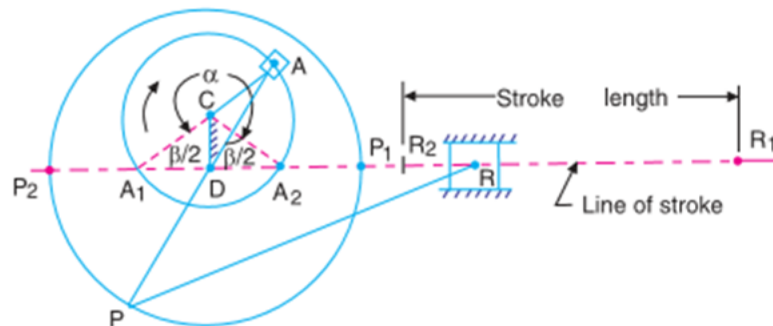

Figure 1
- A Whitworth quick return motion mechanism, as shown in Figure 1 has the following particulars: Length of stroke = 150 mm; Driving crank length = 40 mm; Time of cutting stroke/ Time of return stroke = 2; Find the lengths of CD and PD and determine the angles α and β . [BL: Apply| CO: 1|Marks: 7]